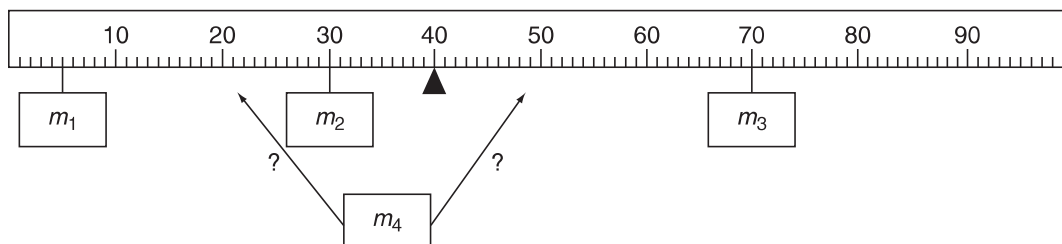

Figure 10-3 The location of mass m_4 needed to place the system in equilibrium is to be determined both experimentally and theoretically, and then compared.
1. Adjust the knife-edge clamp to the 0.400 m mark. Place $m_1 = 0.050 \text{ kg}$ at 0.050 m , $m_2 = 0.300 \text{ kg}$ at 0.300 m , and $m_3 = 0.200 \text{ kg}$ at 0.700 m as shown in Figure 10-3. With the meter stick supported at the 0.400 m mark, determine the position at which mass $m_4 = 0.100 \text{ kg}$ balances the meter stick. Record this